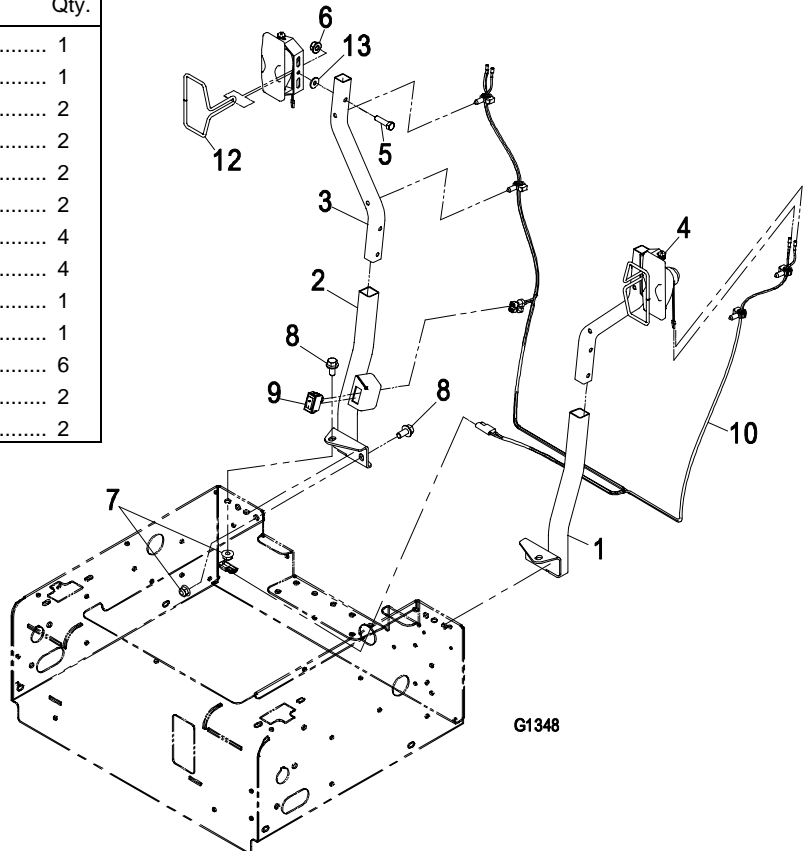

FIGURE 1
(Refer to Figure 1 for all item callouts and hardware)
1. Position the RH mount bracket (item 2) on the seat box frame and secure with (2) 3/8-16 x 3/4 screws (item 8) and (2) 3/8-16 nyloc nuts (Item 7) as shown in Figure 1.
3. Insert light mount tube (item 3) into the RH mount bracket (item 2). If the mount tube does not slide into the mount bracket, file the inside of the mount bracket and reinsert tube.
4. Position and mount the guard (item 12) and light (item 4) to the light mount tube (item 3) using (1) 1/4-20 x 1 1/4 screw (item 5), (1) washer (item 13), and (1) 1/4-20 nyloc nut (item 6). Rotate the light adjustment bracket left or right to ensure leads on light are facing straight down.
5. Repeat steps 1, 3, and 4 for LH side using items 1, 3, 4, 5, 6, 7, 8, 12, and 13.
1. On both sides of the machine, route the harness up the light mount brackets and insert harness clips into mount holes on brackets as shown in Figure 1.